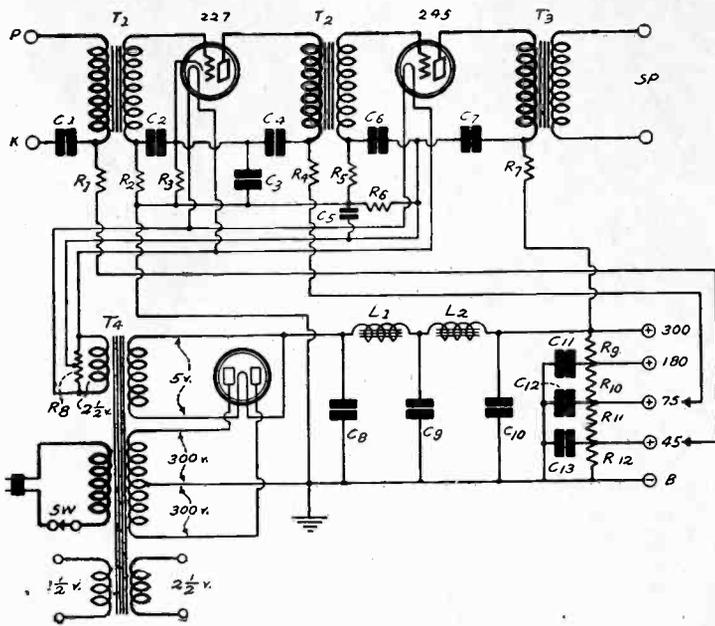
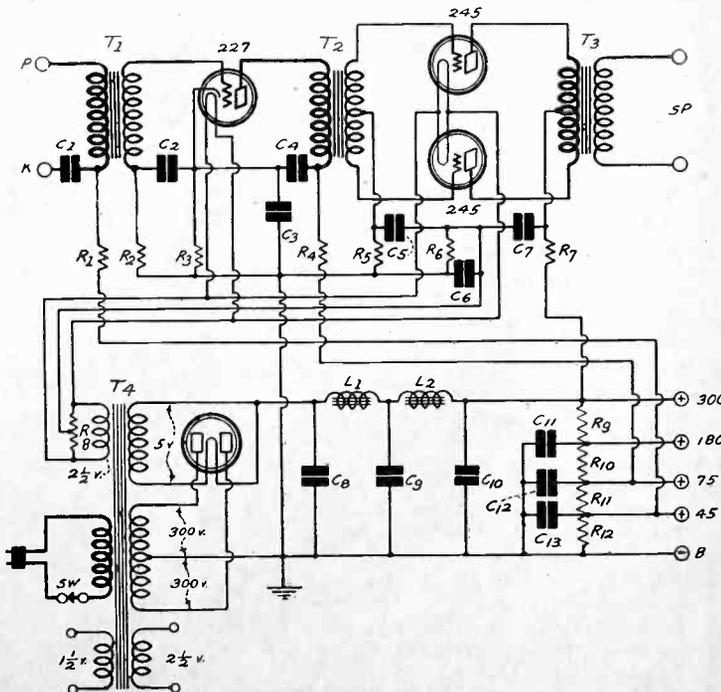

FIG. 97
FIG. 98
A COMPLETE AMPLIFIER SIMILAR TO THAT IN FIG. 97 EXCEPT THAT THE OUTPUT STAGE IS PUSH-PULL
In Fig. 97 is shown a two-stage, transformer-coupled amplifier together with a suitable B supply. The circuit contains one 227 type voltage amplifier, one 245 type power amplifier and one 280 type rectifier.
In Fig. 98 is given a two-stage, transformer-coupled amplifier in which the output stage is push-pull. The power supply circuit is the same as that for the single-sided circuit in Fig. 97, and all the parts are also the same, except as noted in the list of parts.
The circuit in Fig. 98 will draw nearly twice as much current from the power supply as that in Fig. 97. Hence it is to be expected that the output voltages will be slightly lower, since there will be a greater drop in the rectifier tube and the filter coils. This, however, does not prevent the push-pull circuit from giving greater output and less distortion than the single-sided circuit. With the same voltages applied the push-pull is capable of about four times as much undistorted output as the single-sided circuit, and the voltages at worst will be only a few per cent lower.
While an amplifier employing two 245 tubes in push-pull in the final stage will give more volume than can be used in any home with comfort, there are places where a much greater output is desirable. For example, in a small dance hall, a restaurant, a small auditorium, or picture house, the circuit shown in Fig. 98 may not give sufficient undistorted sound to reach everybody. The same applies to small outdoor assemblies.
Note that the plate lead resistors have been omitted from the two push-pull stages in this amplifier. The reason for the omission is that in a push-pull stage which is well balanced there is practically no signal current in the common plate lead and therefore there is very little feed back. But it may happen that the tubes are considerably different and that motorboating or appreciable distortion will occur. In that event the resistors should be used. R7 in Fig. 98 shows how the resistors should be connected relatively to the by-pass condenser C7 or C4. R4
- The following parts apply to Fig. 98